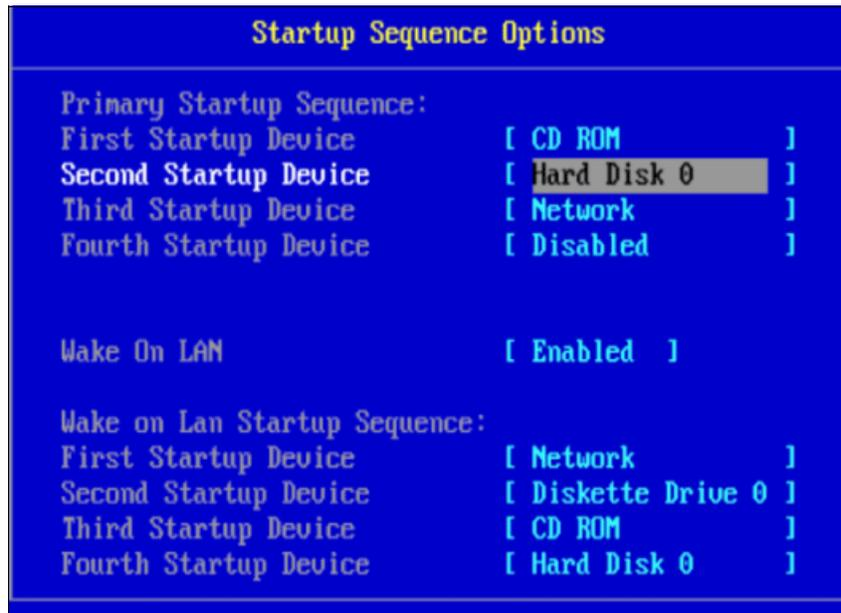

Figure 10-36 Selecting Hard Disk 0 in Startup Sequence Options screen
5. Scroll up to Startup Sequence Options and press Enter. Make sure that the Startup Sequence Option is configured as shown in Figure 10-36.